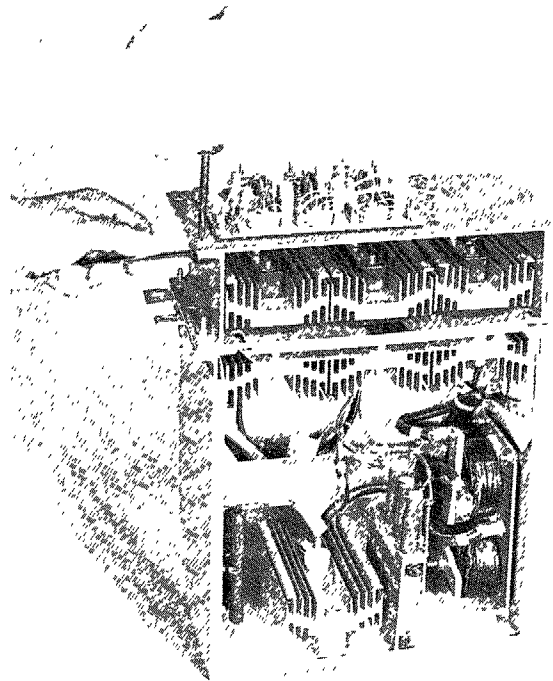

FIGURE 13
4. Remove 4 machine screws and nuts that secure the front red plastic insulation cover to the converter module. See Fig. 13.